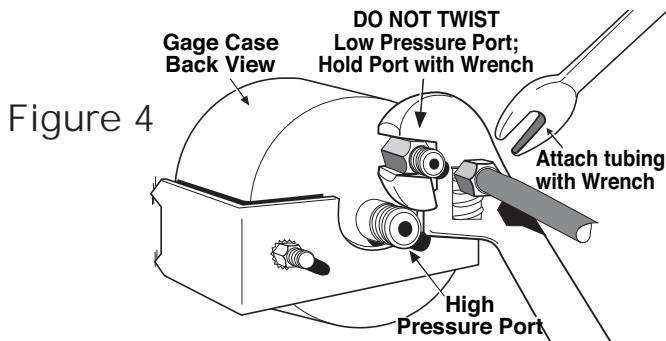

Figure 4
2. You **MUST** use a second wrench on the **Low Pressure** port when tightening tube fittings. (**Figure 4**). Notice that a wrench is used for holding the low pressure port while a second wrench will tighten the pressure tubing/hose fitting onto the port.